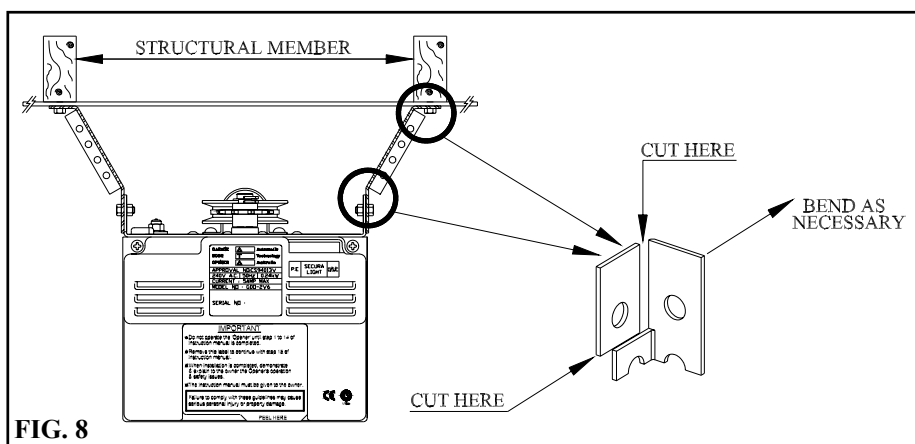

FIG. 8
Raising the drive end of the opener from the packing box and support it in a horizontal position with a step ladder, then open the garage door. Rest the opener on the open door and use a scrap piece of wood to bring it to horizontal level. Line up the track with the centre line on top of the door. Secure to the ceiling above drive unit mounting holes, with perforated angle (not supplied). A representative mounting is shown. (FIG. 8 & 8a)
Connect angle and drive unit with 2 flat perforated strips of angle (not supplied) with M8 x 20mm screws, nuts and washer. Strips should not extend more than 18mm below centre of drive unit mounting holes. (FIG. 8 & 8a)
Attach the angle (not supplied) to the ceiling and connect angle and drive unit with two (2) flat perforated strips of the angle (not supplied) with M8 x 20mm screws and nuts. Strips should not extend more than 18mm below centre of the mounting holes of the drive unit. A representative mounting is shown. (FIG. 8 & 8a) Do not lock screws at this stage.